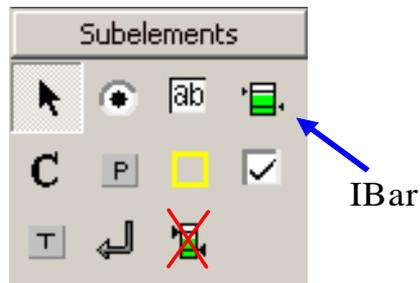

Figure 100. Controls in Subelements Library
**Note:** Use the IBar, **not** the Bar control. The Bar is obsolete. See Figure 100.